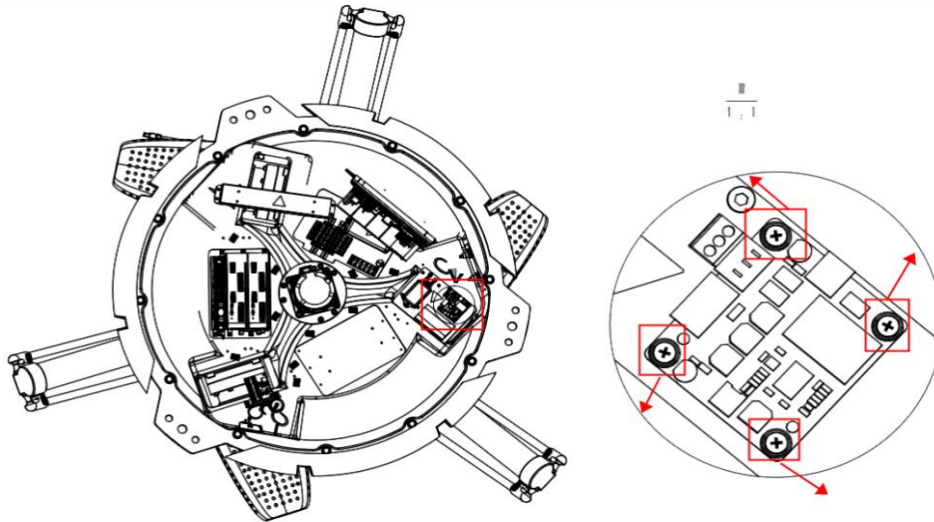

Figure 4-22 Remove the UPS power supply PCBA fixing screws
- Step 3** Use a Phillips screwdriver to unscrew and remove the four fixing screws on the UPS power supply PCBA, as shown in Figure 4-22.
The UPS lithium battery is located in the robot base. If you need to replace it, you need to remove the base cover. The UPS lithium battery is shown in Figure 4-22.